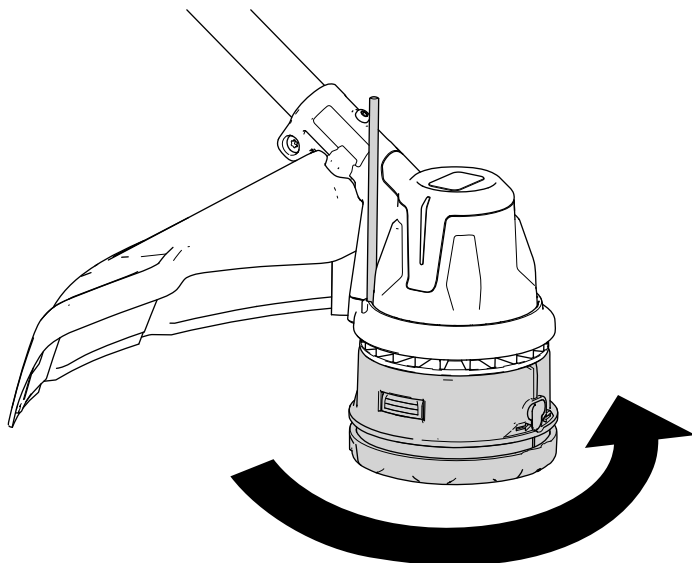

Figure 17
3. With a tool securing the trimmer head, rotate the trimmer head counterclockwise to remove it from the threaded gearcase post (Figure 17).